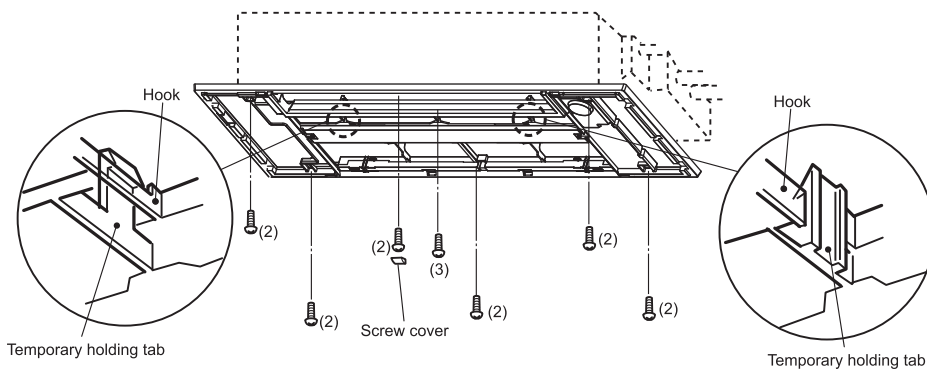

Fig. 5
- Attach the temporary holding tabs on the grille to the hooks on the indoor unit. (Fig. 5)
Loosely install the 4 fixing screws (2) near the corners. (Fig. 5)
- Tighten the fixing screws (2) and the fixing screw (3) at the middle of the grille. (Fig. 5)